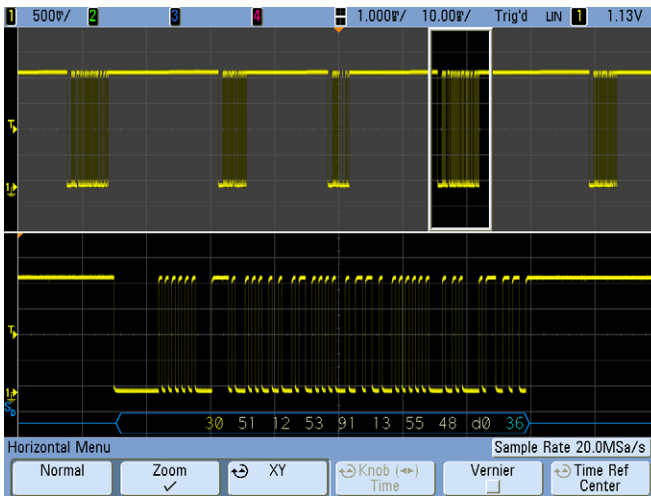

Figure 6 LIN frame ID:30h contains no errors
- 13 Press [**Run**] again to acquire repetitive LIN frames and then change the main time base to 10 ms/div to capture multiple LIN frames (5) on the oscilloscope’s display.
- 15 Now change the zoomed time base to 1 ms/div and then rotate the horizontal position/delay knob to display the first frame after the triggering/center frame (delay = approximately 19.0 ms). Your oscilloscope’s display should now look similar to Figure 6.